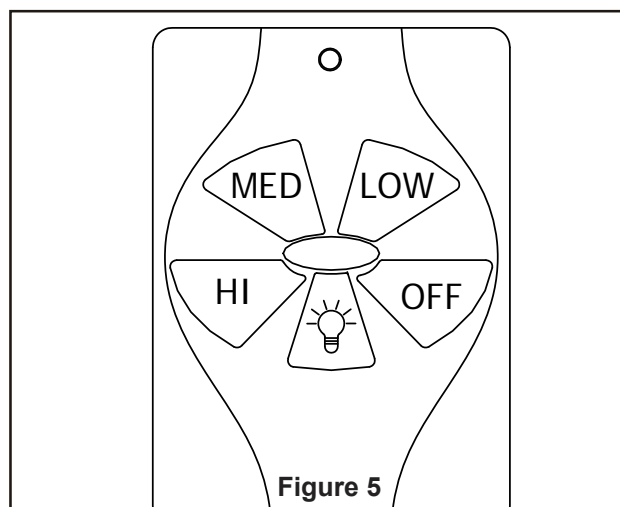

Figure 5
- ☐ 5. Route wires through ceiling canopy. (Figure 5)
4. After connections have been made, the wires should be spread apart with the grounded conductor and the equipment-grounding conductor on one side of the outlet box and the ungrounded conductor on the other side of outlet box, then turn leads upward and carefully push leads into the outlet box, with the white and green leads to one side of the box and the black leads to the other side. (Figure 5)
5. Remote functions: (Figure 5)